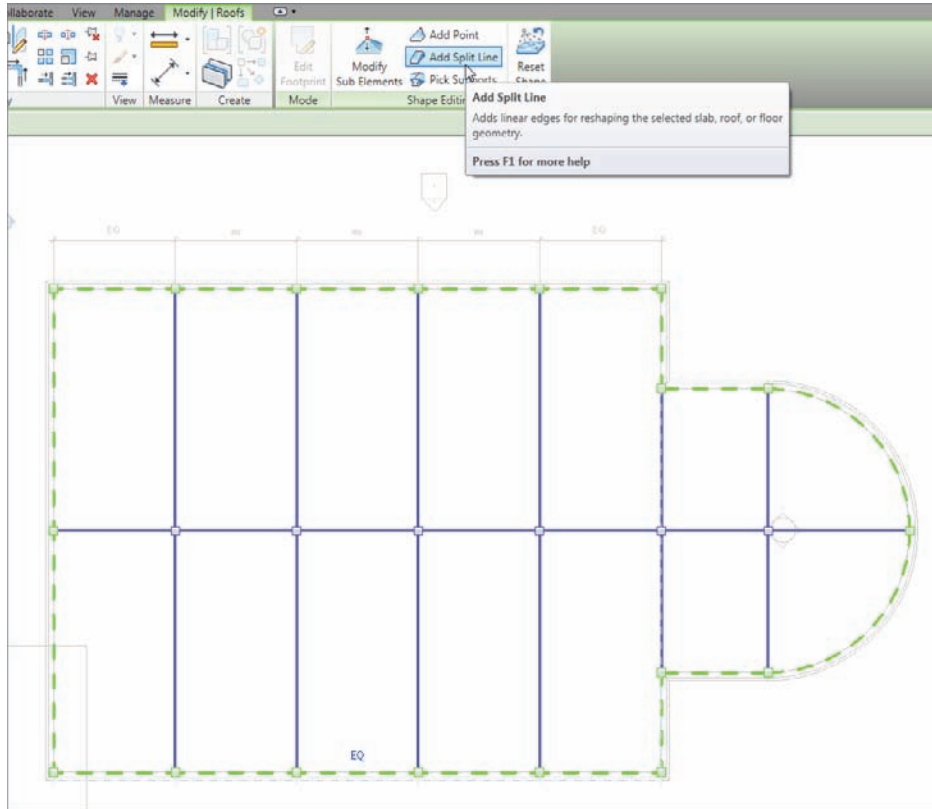

FIGURE 7.11 The ridges are in. All that is left is to create some points and start tapering the roof.
17. Click Add Split Line, as shown in Figure 7.11. Make sure to clear the Chain option.
18. Draw four ridges at the intersections of the reference planes, as shown in Figure 7.11.